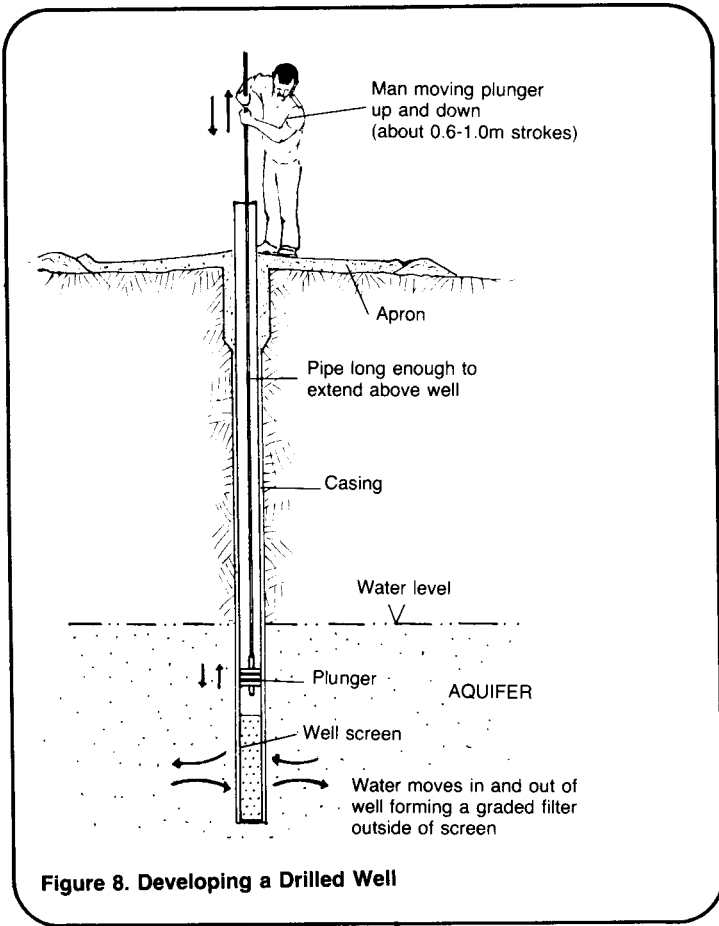

Figure 8. Developing a Drilled Well
2. Lower the plunger until it is below the water level. Begin surging by rapidly raising and lowering the plunger for several minutes. Make the strokes about 0.6-1.0m long. See Figure 8.